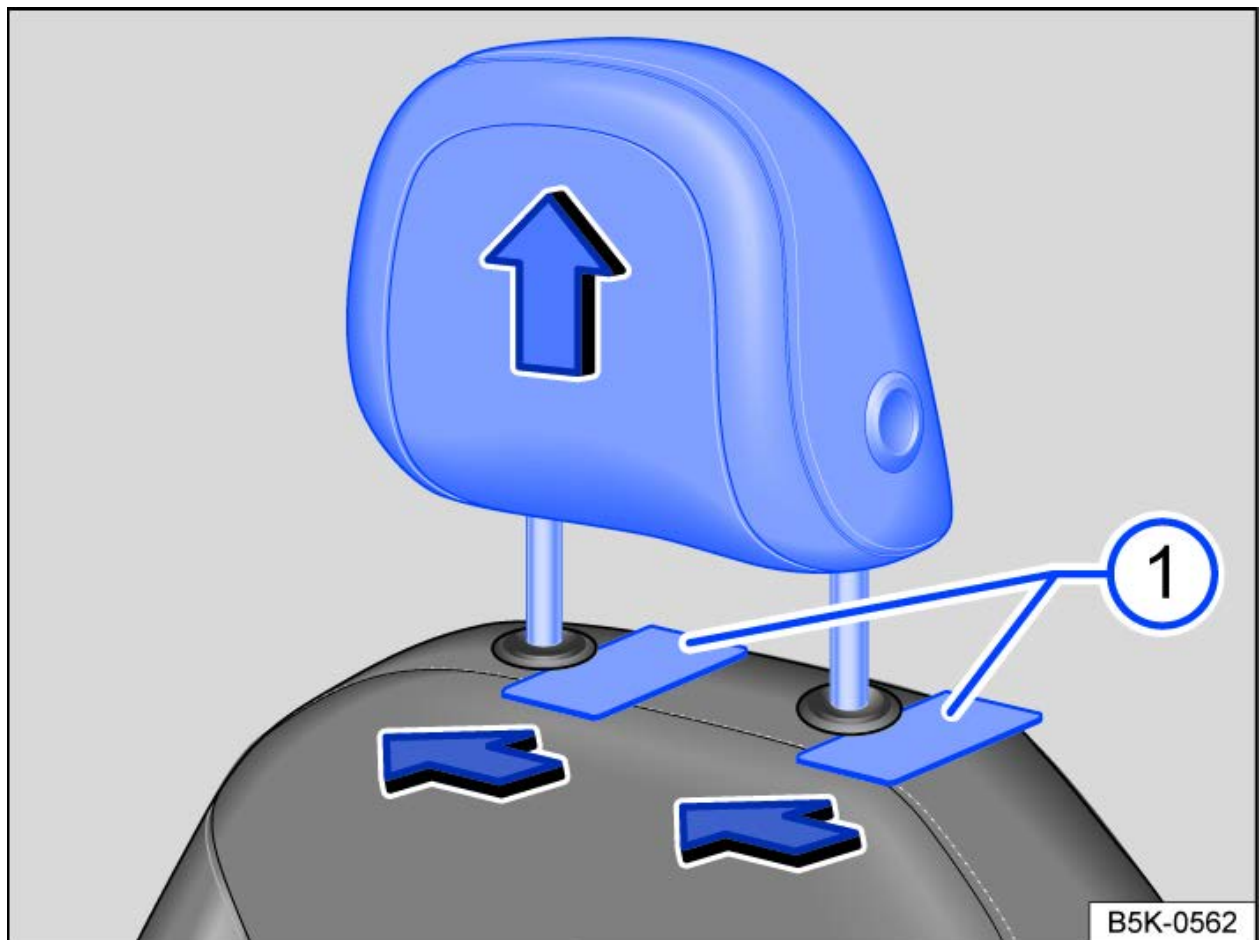

Fig. 1 Front head restraints: removing.
- To unlock, insert flat objects, e.g. plastic cards, between the backrest cover and the head restraint guide pin caps → fig. 1 while a second person pulls the head restraint all the way out.